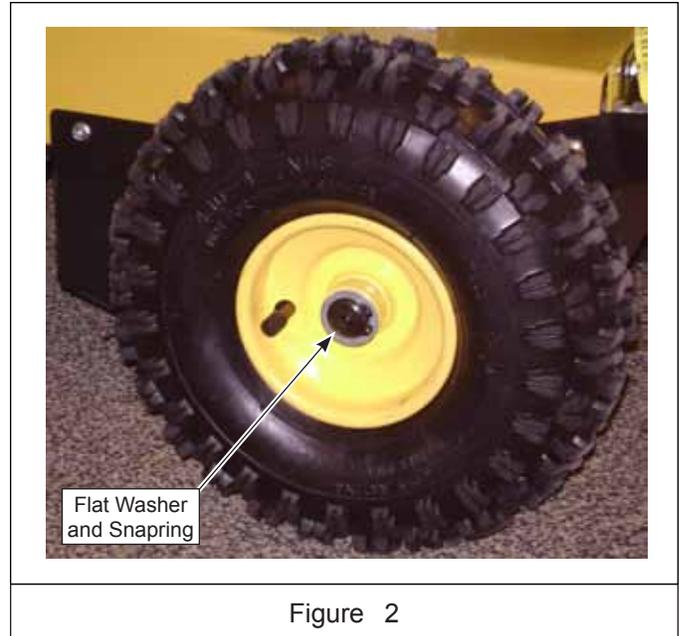

Figure 2
2. Remove the snapping and flat washer from the outer end of each axle shaft and remove both wheel/tire assemblies from broom. See Figures 2 and 3.